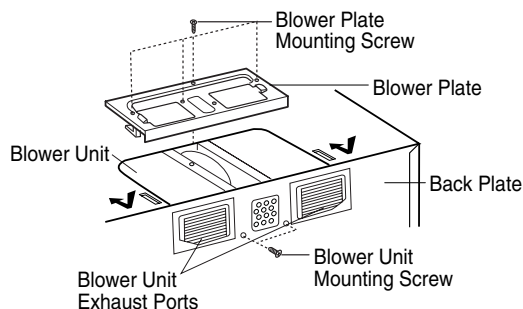

Figure 19
6. Reattach the blower plate to microwave oven so the exhaust ports and blower plate opening are aligned. Attach with one blower unit mounting screw and then one or several blower plate mounting screw(s). See Figure 19.